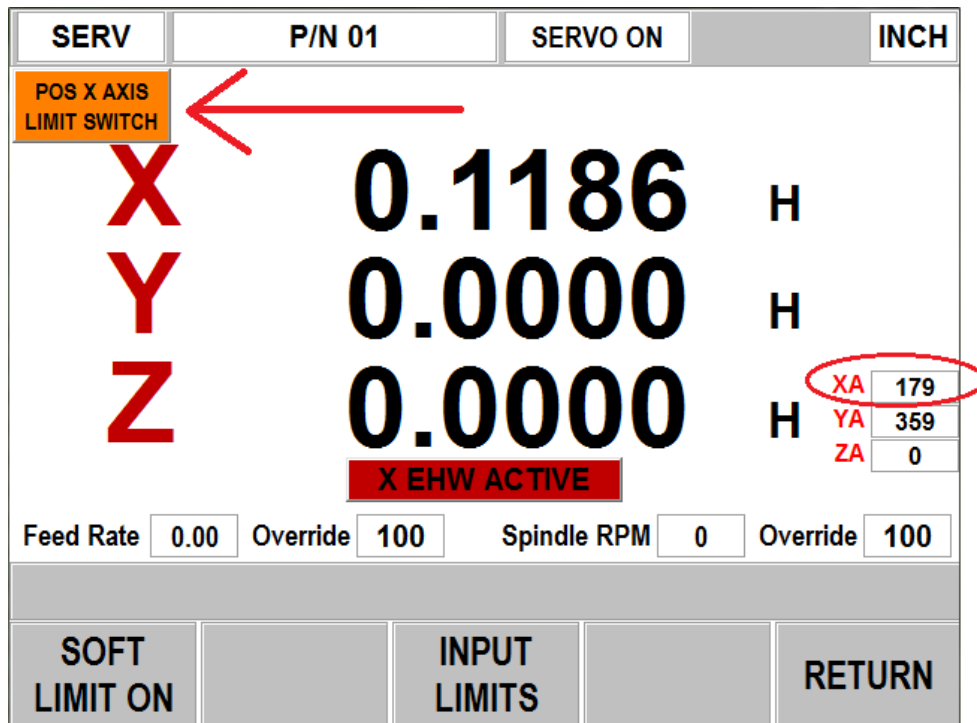

Figure 6.1.1d
19. Check the Index Angle by jogging the X axis to the right until the "POS X AXIS LIMIT SWITCH" flashing warning on the screen appears. Jog using the finest EHW resolution to best measure the index angle. See figure 6.1.1d. Please note the index angle in this case is 179 for the X axis.
- If the machine can be jogged under power go to Service Code 505 and jog the "Y" axis forward (use the finest resolution when you get near the limit switch) until the "POS Y AXIS LIMIT SWITCH" flashing warning message appears. Just like it shows in figure 6.1.1d, but for the Y axis.
12. Check the Index Angle by jogging the "Y" axis slowly forward until the "POS Y AXIS LIMIT SWITCH" flashing warning message appears. See figure 6.1.1d above.